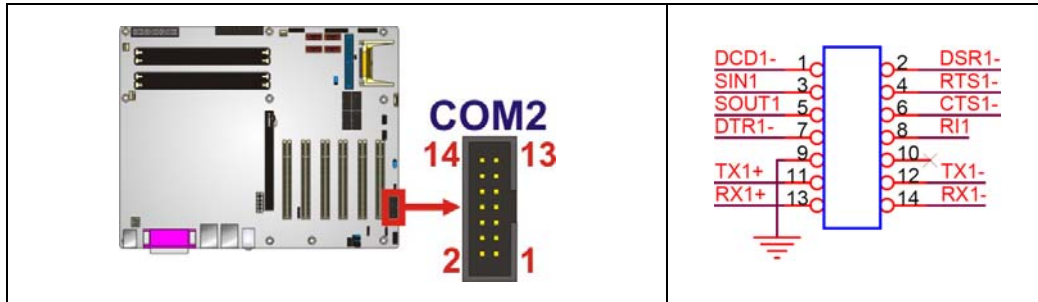

Figure 4-20: Serial Port Connector (RS-232/422/485) Pinout Locations
- CN Location:** See Figure 4-20